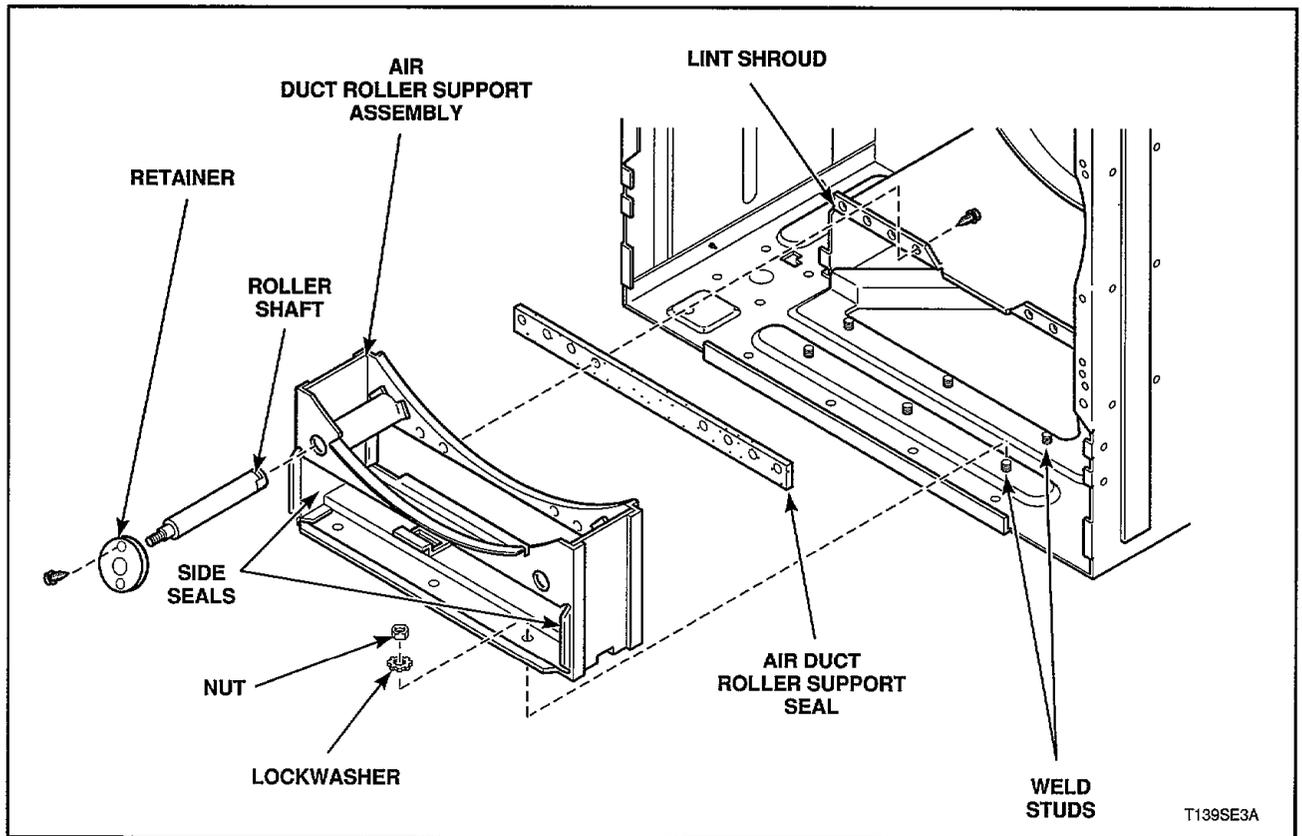

Figure 17
21. ROLLER SHAFT (Figure 17)
- Remove screws from retainer and remove retainer, Figure 17.
22. AIR DUCT ROLLER SUPPORT ASSEMBLY (Figure 17)
23. AIR DUCT ROLLER SUPPORT SEALS (Figure 17)